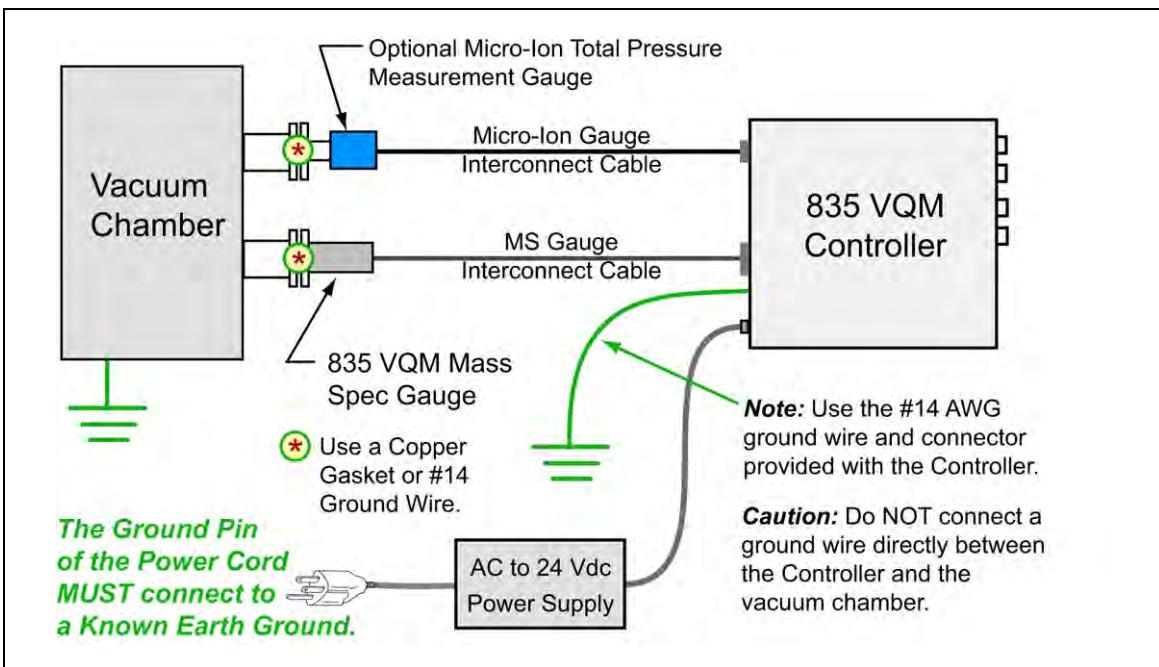

Figure 3-15 **VQM System Grounding Diagram**
1. Connect a #14 AWG ground wire (provided) from the ground lug (6-32 thread) on the rear panel of the VQM Controller to a known Earth ground. Do NOT connect a ground wire directly between the VQM Controller and the vacuum chamber. See Figure 3-14 and Figure 3-15.